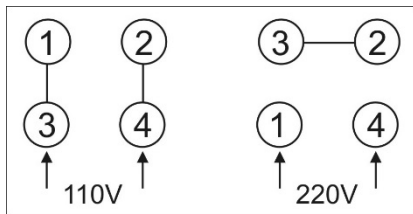

Figure 9-2
4. Switch the leads in the coolant pump junction box, according to the diagram in Figure 9-2. (A diagram is also included on the coolant pump.)
5. Switch the lead in the motor junction box, according to the diagram in Figure 9-2. (A diagram is also included on the motor)